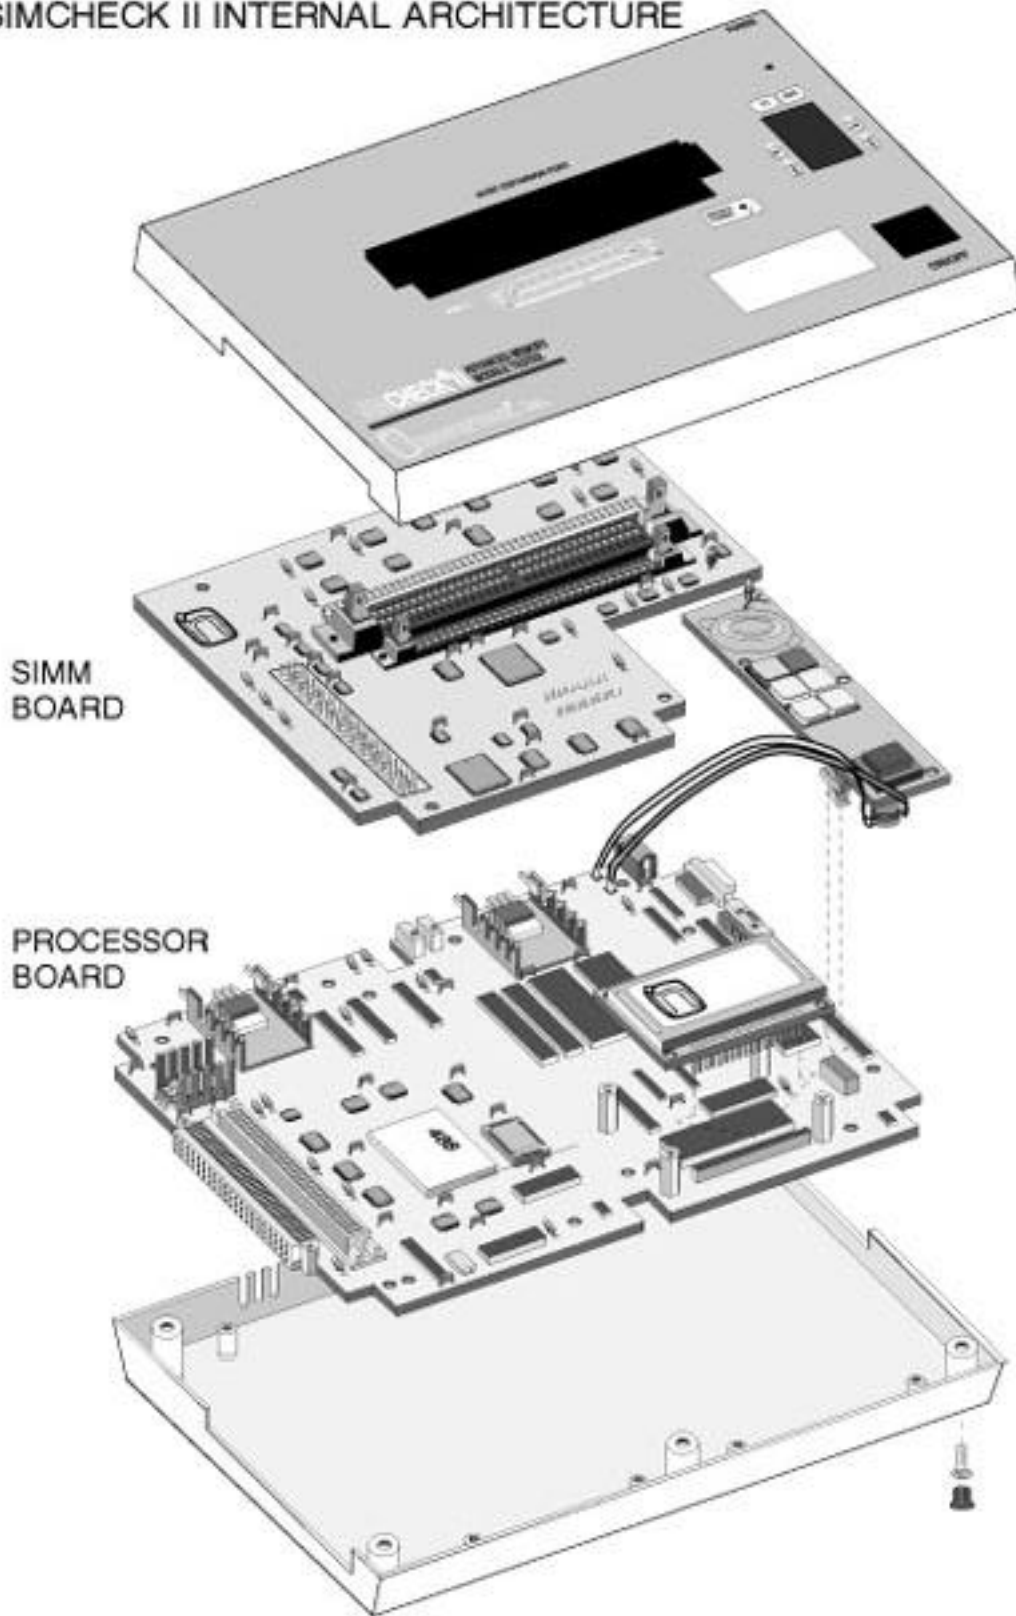

FIGURE 2
3. Remove the (6) retaining screws (4/40 x 5/16 phillips) from the top circuit board. Pull top circuit board straight up, separating it from the bottom board as shown in Figure 2.
4. Remove the (2) screws (4/40 x 7/16 Black Oxide Pan Head) and black fiber washers.
3. Replace (2) screws (4/40 x 7/16 Black Oxide Pan Head) and fiber washers and tighten (Avoid damaging the circuit board by over tightening). See Figure 2.
4. Replace the top circuit board and replace (6) screws (4/40 x 5/16 Phillips) and washers (do not over tighten).
5. Place the case halves back together and replace (6) screws (#4 x 3/8 machine Phillips), do not over tighten. Replace the rubber feet.